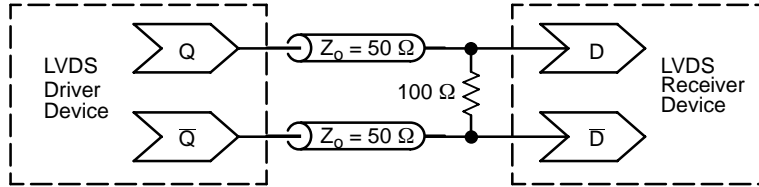

Figure 14. Typical LVDS Termination for Output Driver and Device Evaluation
4. LVDS outputs require 100 Ω receiver termination resistor between differential pair. See Figure 14.